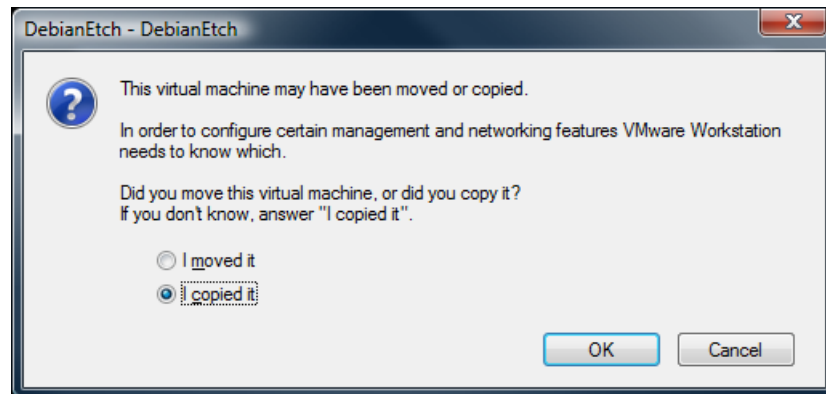

Figure 44 VMware dialog
4. Since this is the first time this virtual machine is loaded you will be asked if it was moved or copied. Select the “I copied it” option, see Figure 44.